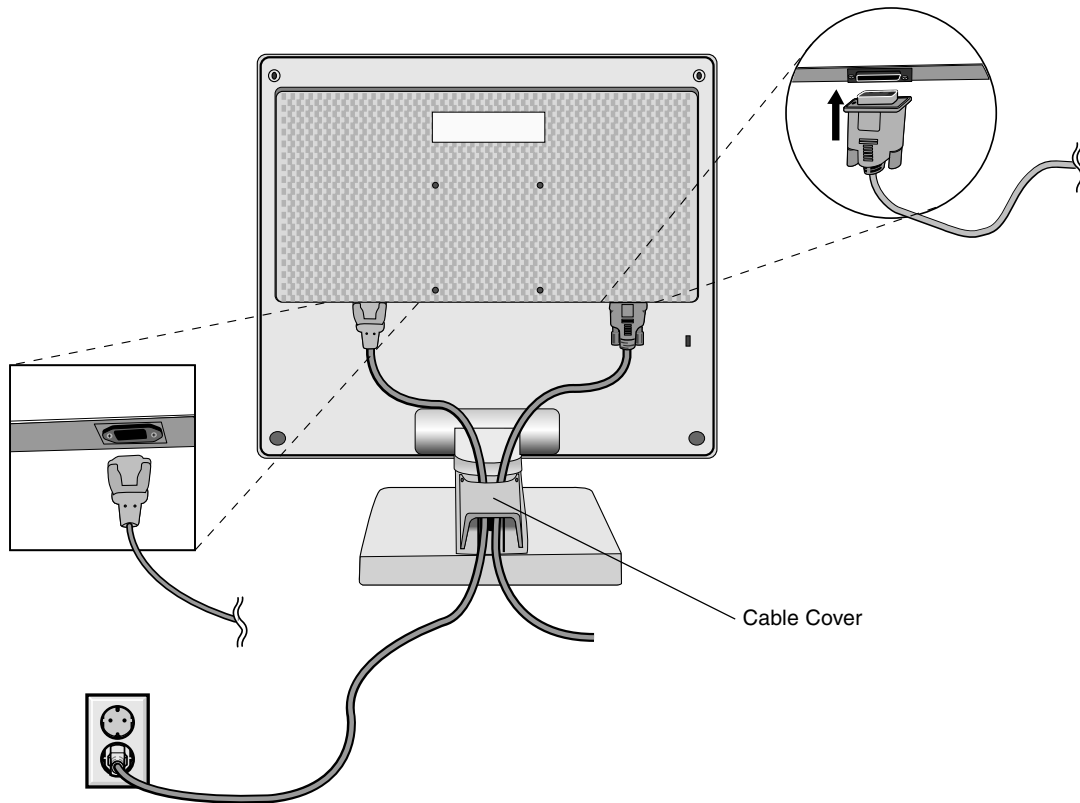

Figure C.1
4. Connect the 15-pin mini D-SUB of the video signal cable to the appropriate connector on the back of the monitor (**Figure C.1**). Place the Video Signal Cable under cable cover.
5. Connect one end of the power cord to the LCD Series monitor and the other end to the power outlet. Place the video signal cable and AC power cord under the cable cover (**Figure C.1**). Replace cable cover.